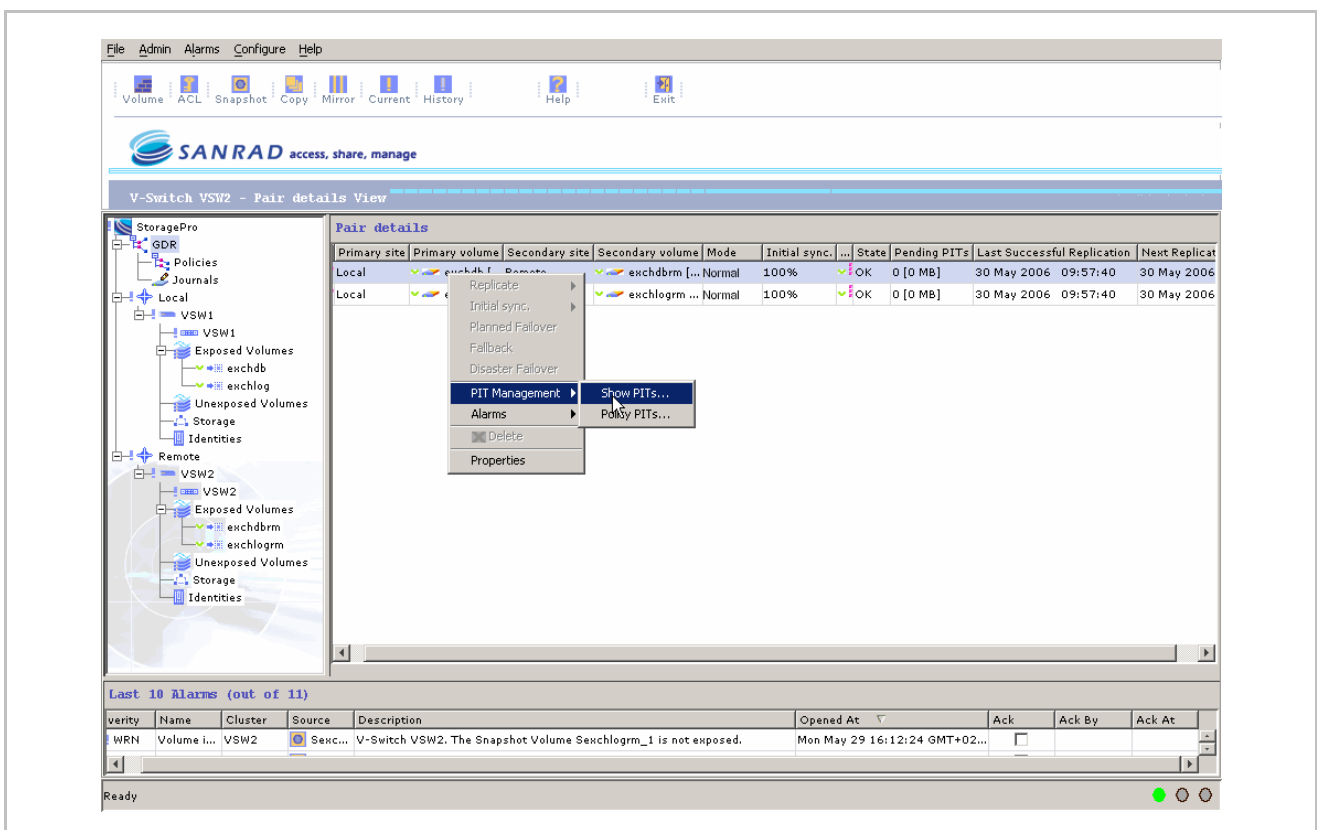

Figure 6. Monitoring Pits for GDR Pair
2. Click the GDR pair, right click and choose “PIT Management” (see Figure 6).